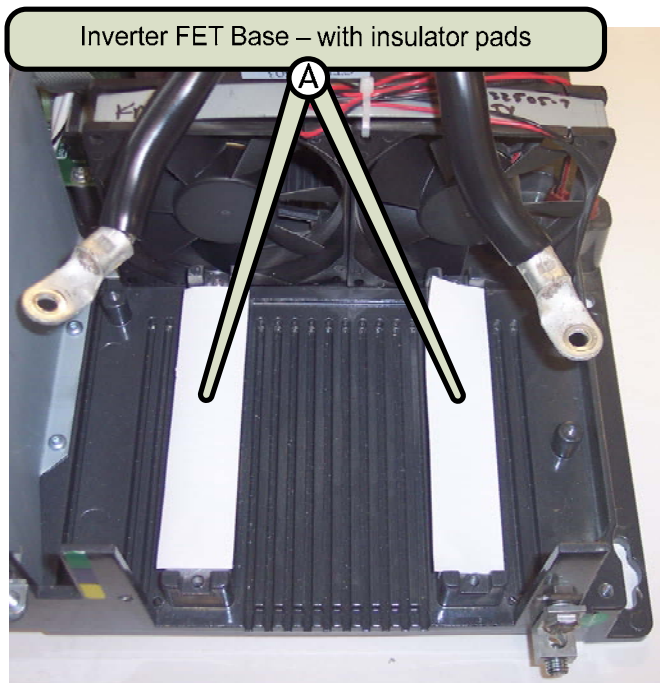

Figure 4, Inverter FET Base with T-Gon Insulator Pads
3.2.1 Ensure the baseplate is clean and place two new T-Gon™ insulator pads on the inverter FET baseplate (see figure 4).